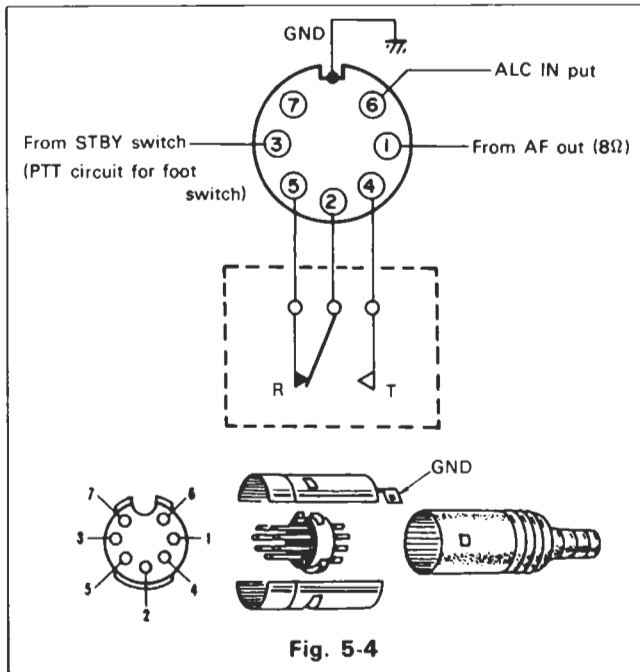

Fig. 5-4
Fig. 5-4 shows the REMOTE connector. This DIN plug can be used for attaching a linear amplifier or other external accessories to the transceiver. Always use shielded line for all functions.
- Operation with a linear amplifier. Refer to Fig. 5-4.